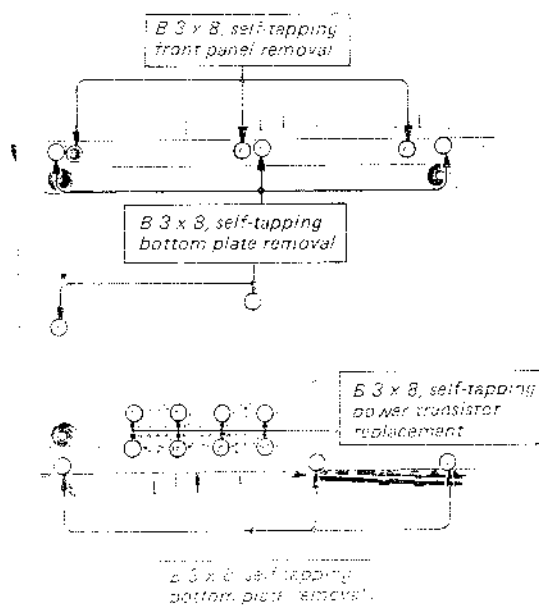
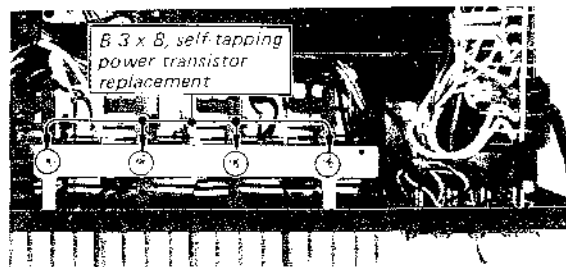

Fig. 2-1. Bottom plate and front panel removal
Fig. 2-3. Power transistor replacement
Remove the eight self-tapping screws shown in Fig. 2-1.
2. Remove the three self-tapping screws shown in Fig. 2-1.
1. Remove the twelve self-tapping screws shown in Fig. 2-1 and Fig. 2-3.